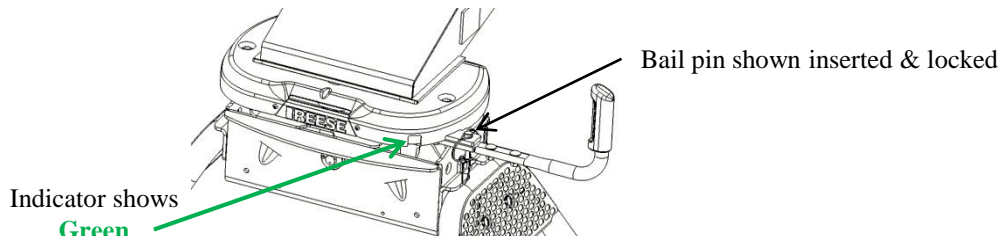

FIG. 15
- 4) Insert bail pin into lock hole, as shown in figure 15.